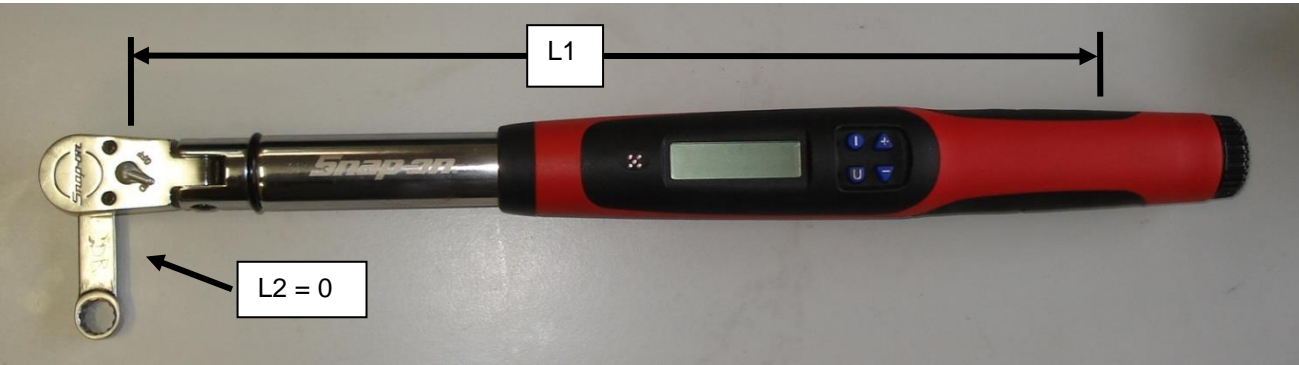

Figure 30 – Torque Wrench & Crowsfoot Adaptor Setting 2
- If the extension is oriented at 90° to the wrench as shown in Figure 30 then no correction is needed because L2 is zero.